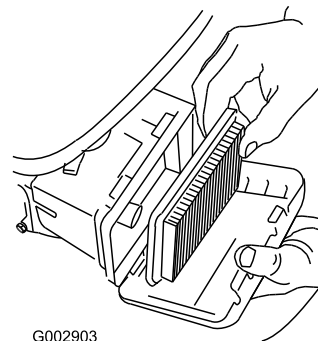

Figure 24
3. Remove the air filter (Figure 24).